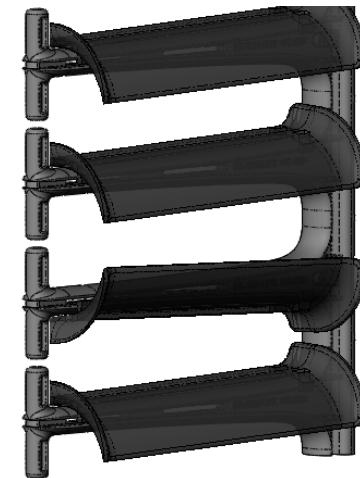

Fig. 4
4. Fig. 4 illustrates various ways in which the Tool-less Bend Radius may be installed.